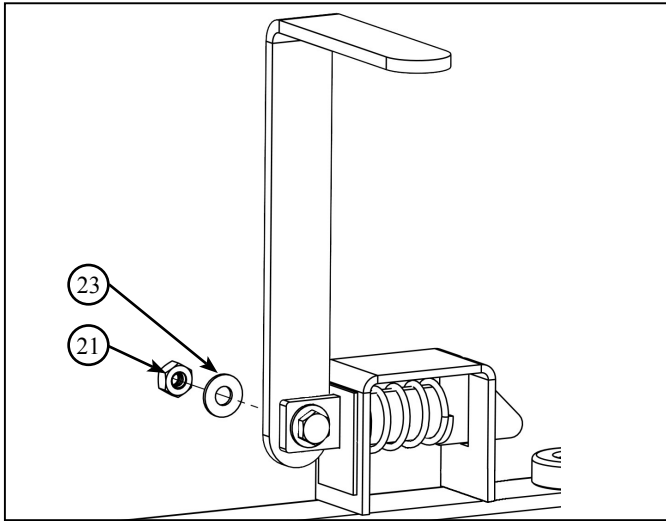

Figure 3.11 - Bed Latch Handle
10. Install a washer (23) and nut (21) onto bolt, do NOT over-tighten. *Refer to Figure 3.11*